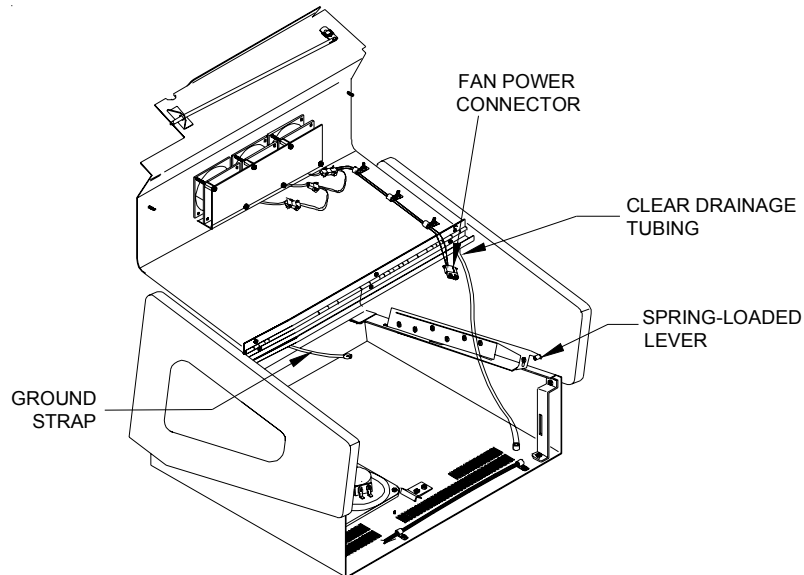

FIGURE 4 - FORCE CLASSIC - HOOD ASSEMBLY
3. Unlock and open the rear door. To remove the lid, first disconnect the fan power connector, then the clear drainage tubing (from lid end) and ground strap. Also remove the monitor control board attached with velcro to the inside of the game. Then press up on the spring-loaded levers (located on each side of the lid), push the levers forward, and lift and remove the lid. Remove the front bezel. See Figures 4 and 5.
14. After replacing the front bezel, install the hood on the chassis, connecting the fan power connector, monitor control board, ground strap, and plastic drain tube. See Figure 4 for locations. Pull the hood towards you until the spring-loaded levers lock into place.